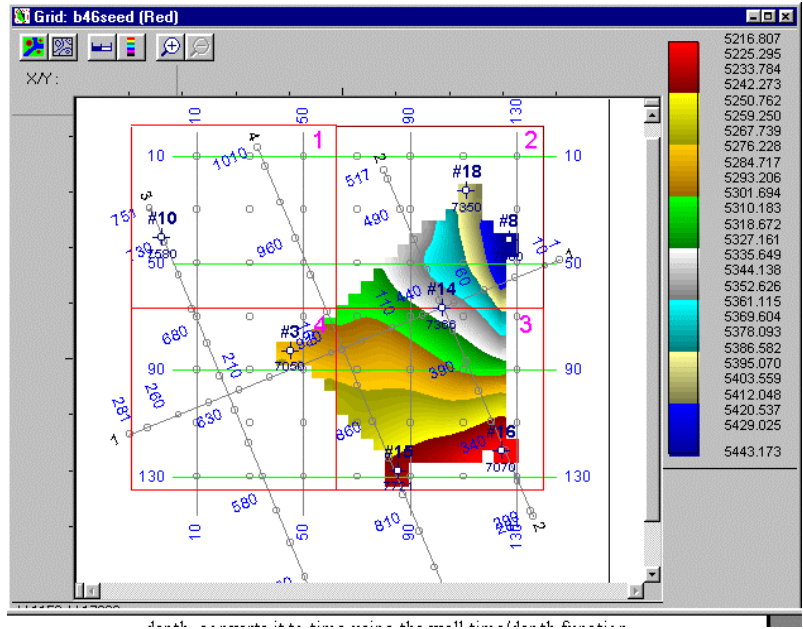

Figure 21: Depth conversion from *Time Gridding* (no extrapolation).
- 2) The **Time Grid** method uses the horizon time picks, converts it to depth using the well time/depth function and then generates a velocity grid. Depth conversion (Figure 21) yields a map only slightly different in this case from